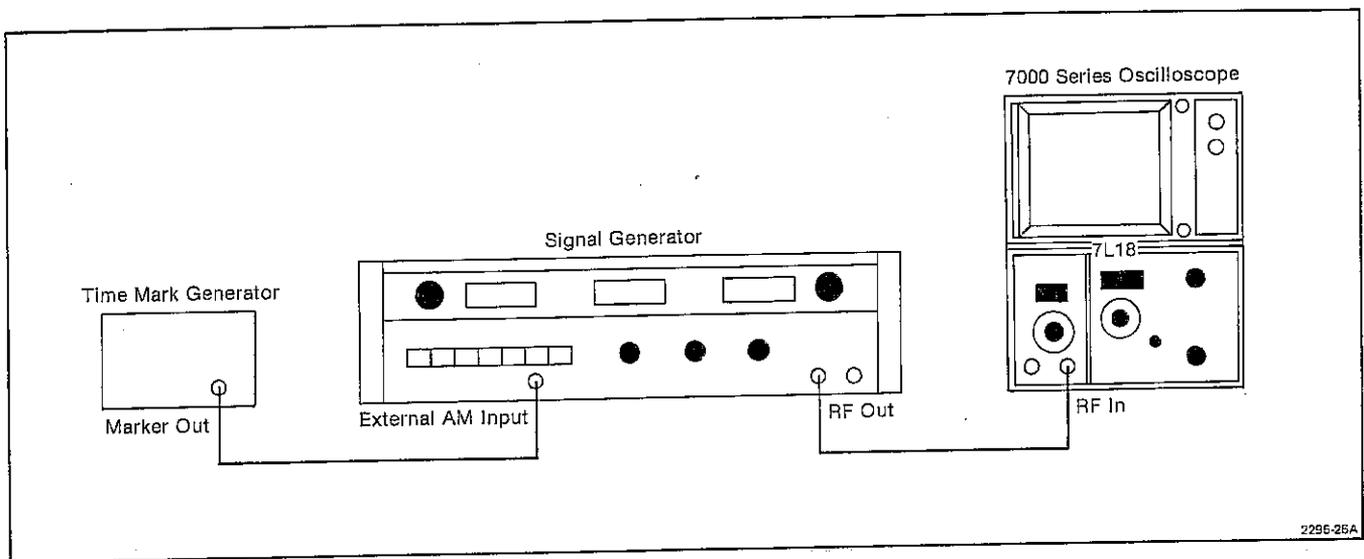

Fig. 4-18. Sweep Rate Test Setup.
a. Connect the test setup as shown in Fig. 4-18. Set the front panel controls as per test 10.